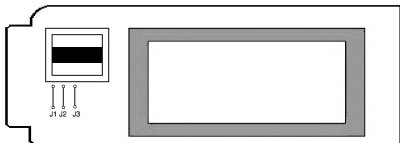

FIGURE 4. U-Repeater Powering Module Option Locations
1.02 This practice has been reissued to reflect the addition of a field selectable powering option in **Paragraph 2.04** and **Figure 4** and the latest CLEI designation. Issue 3 adds a new Sales telephone number.
See **Figure 4** for option locations and **Table A** for the option settings. The **Loop Resistance Fault** indicator illuminates when loop resistance exceeds 1000 Ω or if the loop is open to the Repeater.